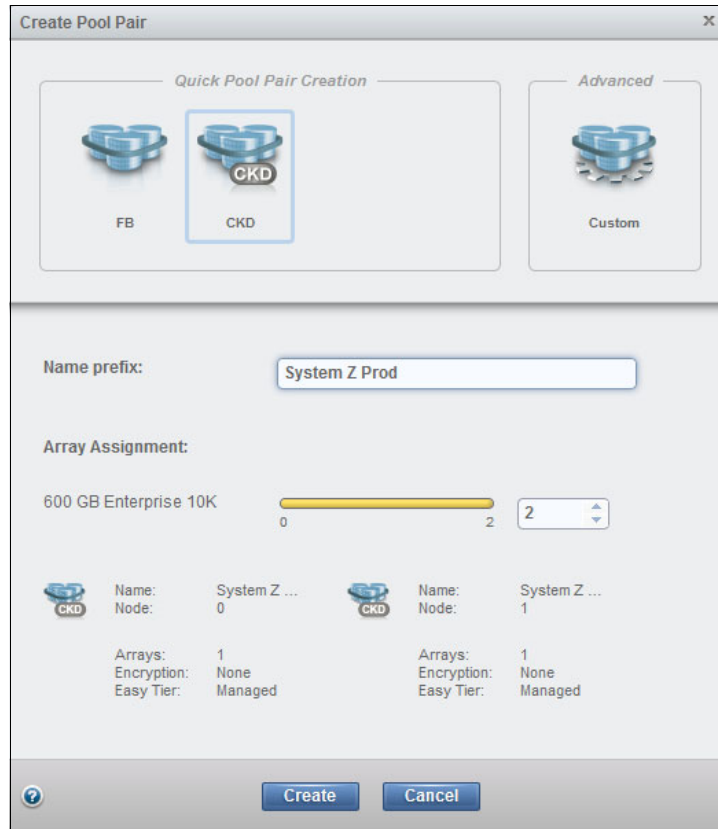

Figure 11-67 Create the CKD pool pair and assign arrays to the pool pair
4. In the Create Pool Pair window that is shown in Figure 11-67, select the number of arrays to assign to the pool pair.